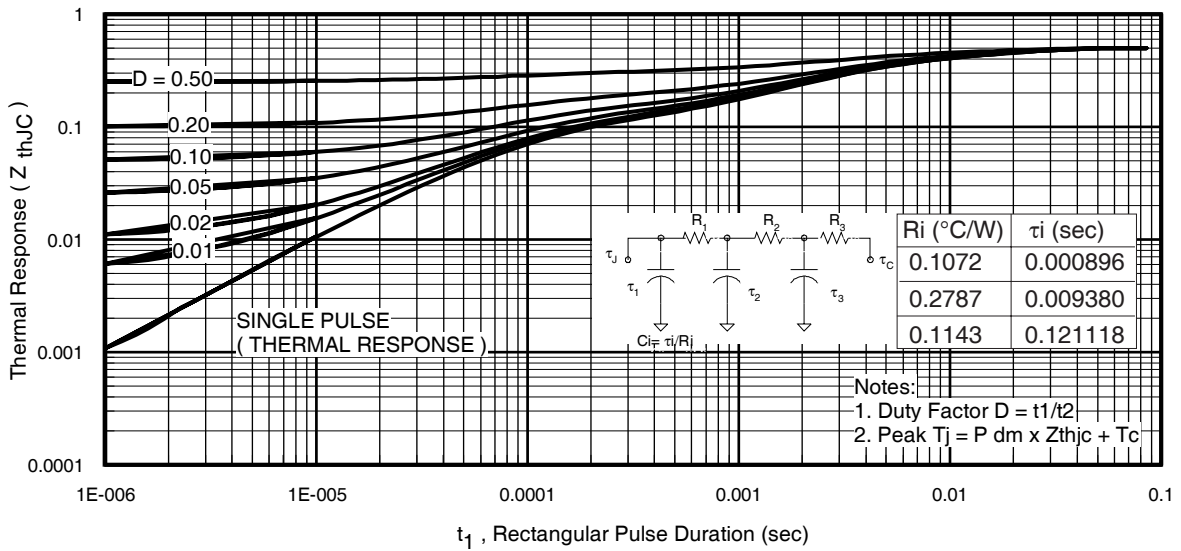
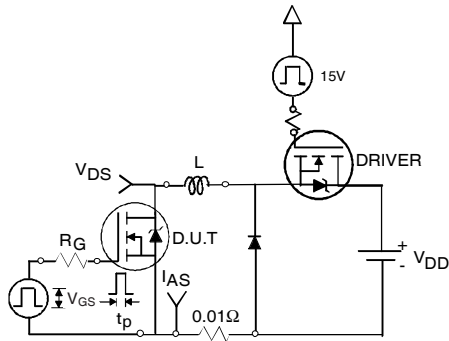

Fig 11. Maximum Effective Transient Thermal Impedance, Junction-to-Case
Fig 12a. Unclamped Inductive Test Circuit
- ① Repetitive rating; pulse width limited by max. junction temperature. (See fig. 11).
- ② Limited by T_{Jmax} , starting $T_J = 25^\circ\text{C}$, $L = 0.026\text{mH}, R_G = 25\Omega, I_{AS} = 110A, V_{GS} = 10V$. Part not recommended for use above this value.
- ③ Pulse width $\leq 1.0\text{ms}$; duty cycle $\leq 2\%$.
- ④ $C_{oss\text{ eff.}}$ is a fixed capacitance that gives the same charging time as C_{oss} while V_{DS} is rising from 0 to 80% V_{DSS} .
- ⑤ Limited by T_{Jmax} , see Fig.12a, 12b, 15, 16 for typical repetitive avalanche performance.
- ⑥ This value determined from sample failure population. 100% tested to this value in production.
- ⑦ This is applied to D²Pak, when mounted on 1" square PCB (FR-4 or G-10 Material). For recommended footprint and soldering techniques refer to application note #AN-994.
- ⑧ R_{θ} is measured at T_J of approximately 90°C .
3. Equation below based on circuit and waveforms shown in Figures 12a, 12b.
$Z_{thJC}(D, t_{av})$ = Transient thermal resistance, see figure 11)